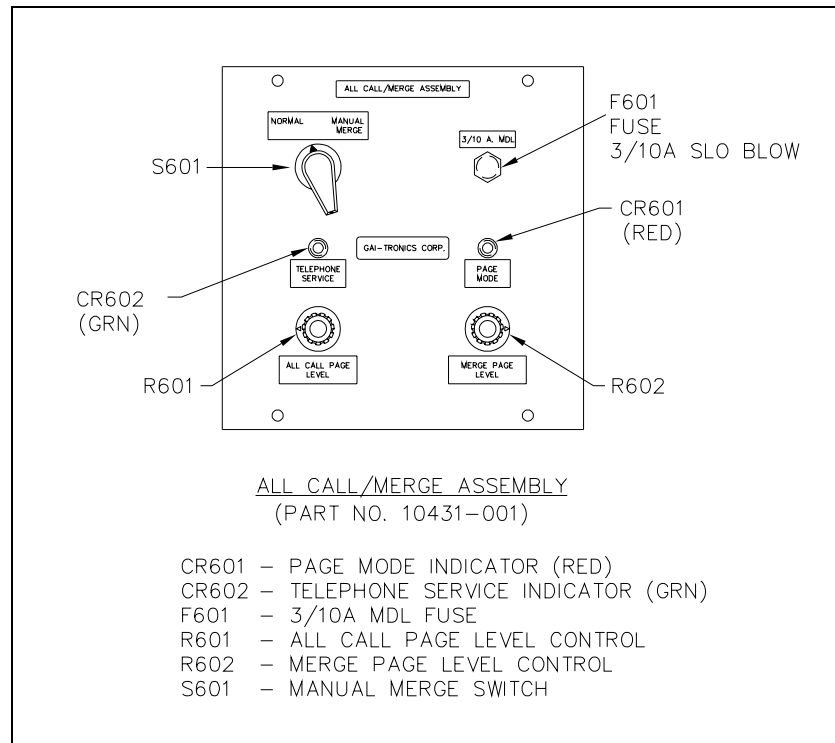
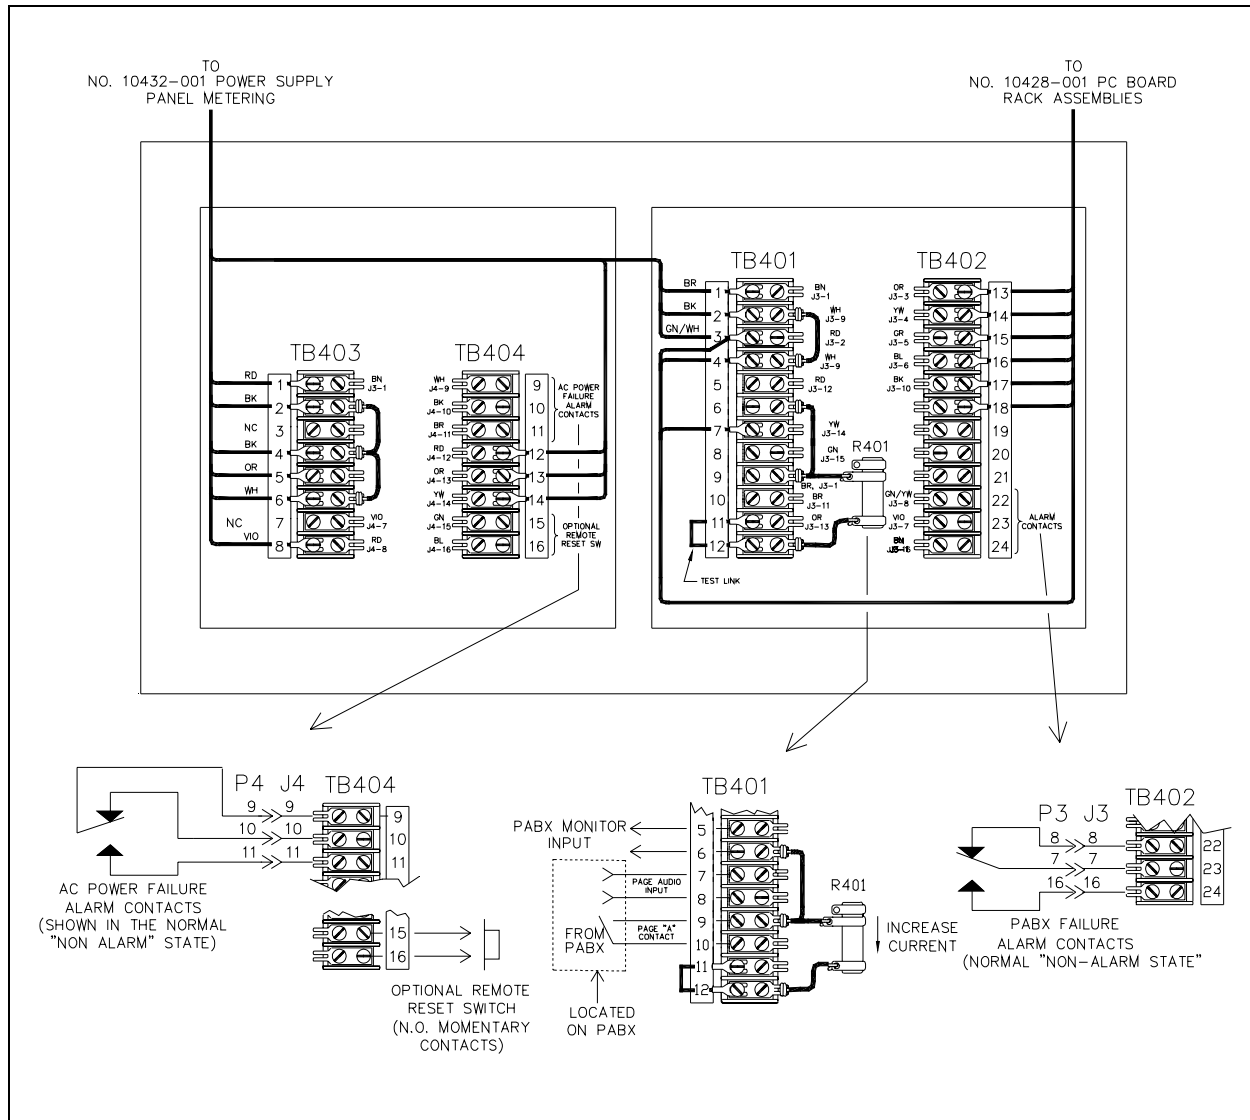
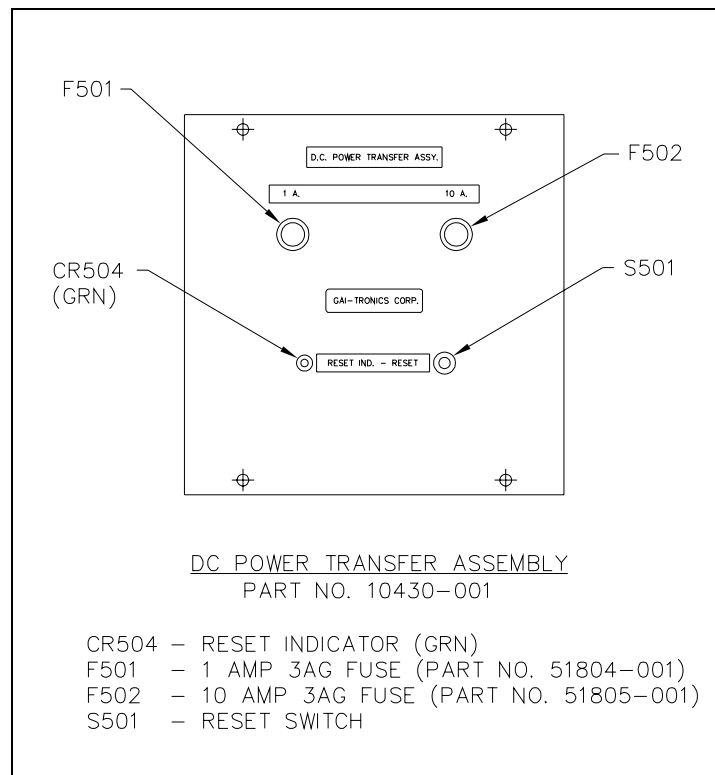

Figure 4. All Call/Merge Assembly 10431-001
Figure 7. MDPP1 Wiring Information
Figure 10. DC Power Transfer Assembly 10430-001
The All-Call/Merge assembly allows all-station paging in the normal dial access, or in the event of a telephone switchboard failure, system-wide paging with push-button page switches on the 491 Series Phone front panel. This assembly includes an audio amplifier and three relays, and is built on an 8-inch square plug-in chassis plate. Refer to Figure 4.
The housing for All-Call/Merge and DC Transfer assemblies occupies the space of a 10.5 × 19-inch rack panel and houses the two assemblies described above. The housing includes four terminal blocks for input/output connections. See Figure 7.
NOTE: Telephone line connections are not polarity sensitive. In addition to a line (a pair of wires) for each station from the PABX to the interface cabinet, three additional lines (pairs of wires) are required for these system functions. See Figure 7 for wiring details.
This function is taken from the paging capability built into, or provided optionally by, the PABX. One pair from the PABX provides an "A" relay contact (normally open) and the other provides an audio paging signal at normal telephone line level. The "A" contact will have to switch the positive leg of the monitor voltage into an electronic relay circuit. Maximum current through the contact will be 30 mA dc. See Figure 7.
The All-Call/Merge assembly and the DC Power Transfer assembly should be installed and secured in their respective enclosures before power is applied to the system. See Figure 4 and Figure 10.
The green reset indicator (CR504) on the front panel of the DC Power Transfer assembly should be off and the ac power failure relay contacts will be in the alarm state. See Figure 7 and Figure 10. Press the reset switch (S501) to reset the power failure alarm relay and light the reset indicator.
Current to operate the switchboard monitor relay within the All-Call/Merge assembly is controlled by an adjustable resistor attached to terminal block TB401 on the enclosure for the All-Call/Merge assembly. See Figure 7. Because the current also varies with the resistance of the telephone switchboard cable, this resistor is adjusted to compensate for this cable loss.
The monitor relay current can be measured by temporarily replacing the "test link" between terminals 11 and 12 on TB401 with an ammeter. See Figure 7. The current should be between 20 and 40 mA when properly adjusted. The monitor relay contacts are rated for 2 amps, 28 V dc/120 V ac.
Relay contact outputs are provided for ac power failure alarm (TB404-9, 10 and 11) and PABX failure alarm (TB402-22, 23 and 24). These relay contacts can be used to activate audible/visual alarms such as bells or strobe lights as required. See Figure 7 for wiring details. These relay contacts are rated for 2 A, 28 V dc/120 V ac.
2. Press RESET button on panel of DC Power Transfer assembly. See Figure 10. If ac power has been temporarily interrupted, the RESET INDICATOR should turn on and the alarm system should turn off.
5. If the system is not operating, check battery voltage indications on DC VOLTS meter by turning VOLTAGE switch to BATTERY-B position. Also, compare reading with switch in C-CHARGE position. If it is not the same, check 10 A fuse (**F502**) on panel of Power Transfer assembly. See Figure 10.
Battery charging current as indicated on CHARGE CURRENT meter (M701) on panel of Power Supply/Metering Panel assembly after restoration of ac power can be as high as ½ amp depending on length of outage and prior battery condition. If there is no indication of charge current, check both fuses on the front panel of DC Power Transfer assembly. See Figure 10.
2. Check switchboard monitor voltage on terminals 5 and 6 of terminal board **TB401** using dc voltmeter (positive on 6). If higher than normal, check **R401** and test link on same terminal board (**TB401**). Also, check indicator light itself (**CR602**) and relay (**K653**) located within the All-Call/Merge assembly. Refer to Figure 7.
2. Check for blown fuse (**F501** or **F502**) or other defect in the DC Power Transfer assembly. See Figure 10.